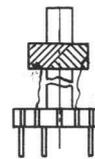

fig.1
- a) Universal winding (see fig.1)
(see figures 1 and 2)